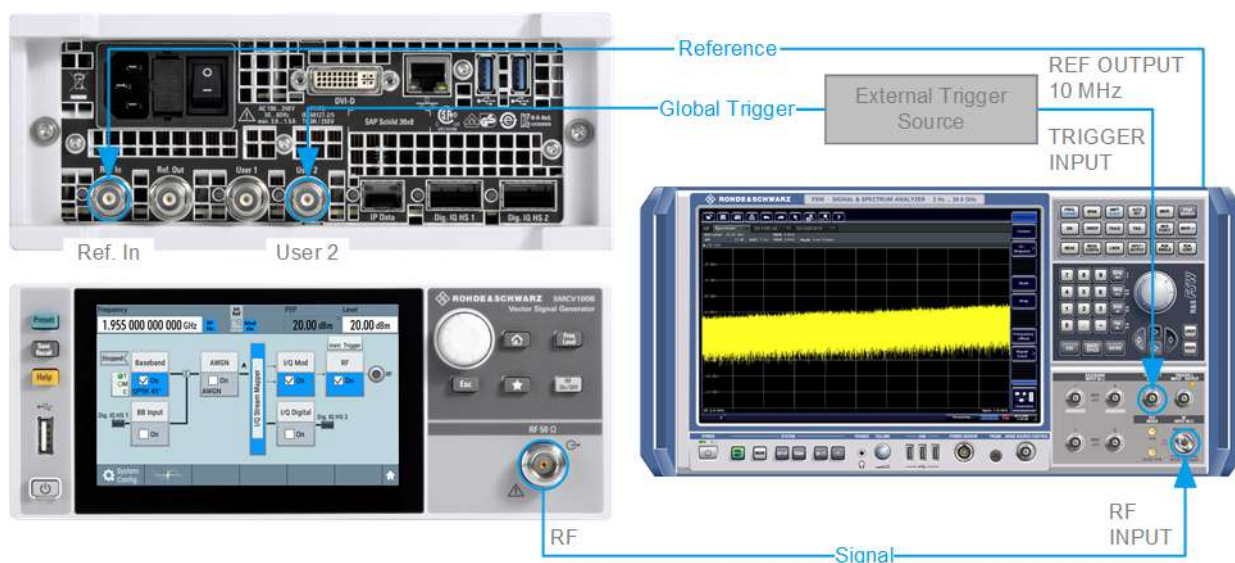

Figure 3-10: Simplified representation of a test setup**
1. Use a suitable cable to connect the external trigger source to the "User 2" connector of the R&S SMCV100B. See Figure 3-10.
The Figure 3-10 depicts the location of the connectors and explains the connection as principle. In practice, the analyzer is the DUT, for example a base station. Other than in the example, the DUT can be the source for the reference signal. Instead of using an external trigger source, the DUT can also send, for example, a frame trigger signal to the R&S SMCV100B. The R&S SMCV100B acts still as the signal source.